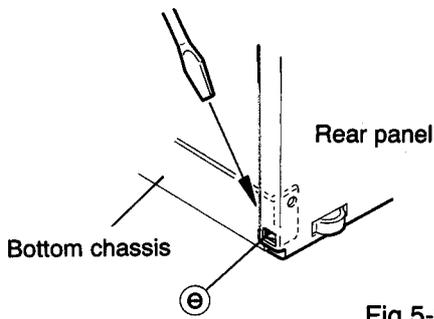

Fig.5-12
6. Use a screwdriver, etc., to disengage the two engagements bottom chassis clips ⑨ and ⑩ from the bottom part of the side panels of the rear panel assembly. (See Figs. 5-12, 5-13)